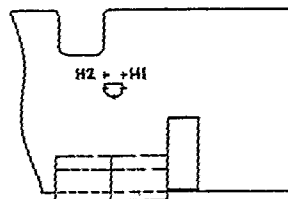

FIG. 3
7. IF INTERCOM (19C320671) IS PRESENT, ADD A DA WIRE JUMPER FROM H1 TO H2 PER FIGURE 3.